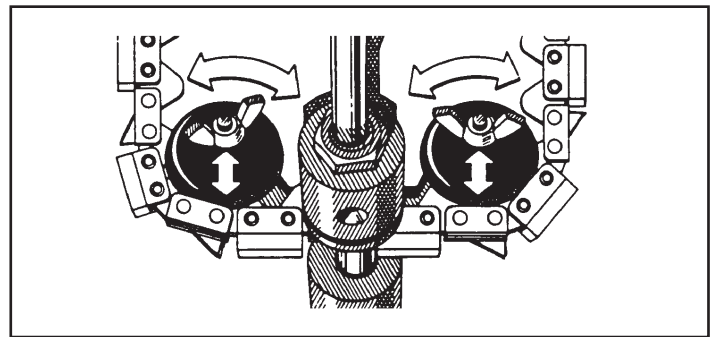

Figure 18. Positioning the Chain
2. Lay the chain across the plastic chain supports and then rotate the supports so the rivet head is centered between the take-up handle pocket and the spinner anvil (Figure 18).